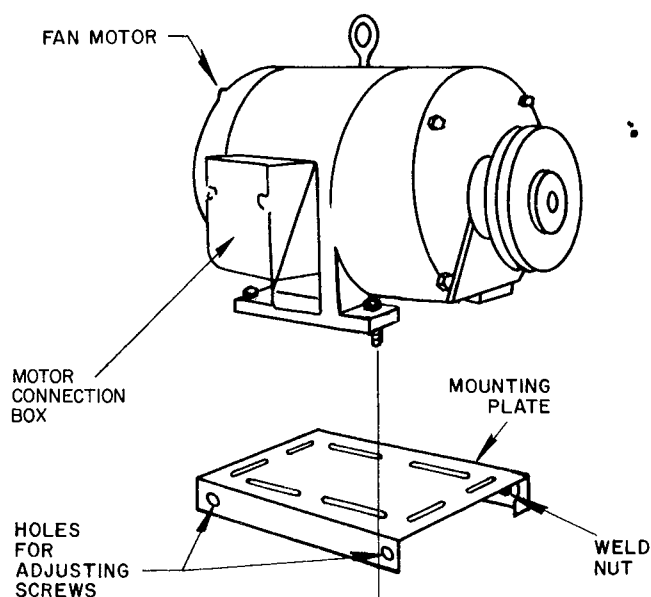
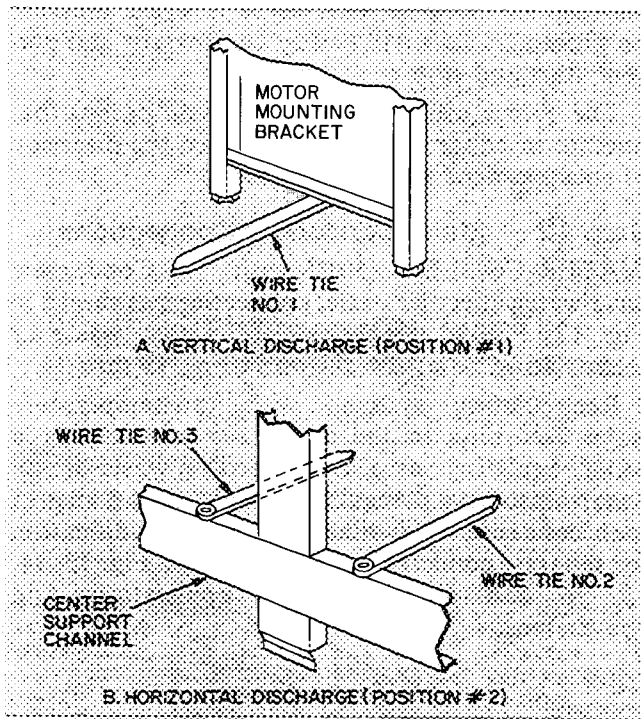

**Fig. 5 — 50BJ,BK028 and 034 Motor
Fig. 9 — Wire Tie Locations
2. Position motor on motor plate (Fig. 5) and fasten with fasteners provided.
VERTICAL DISCHARGE (Fig. 2. Position #1) — Run wiring thru wire tie #1 (Fig. 9) on motor mounting bracket to the fan motor and secure. Route wiring from wire tie around motor side of mounting bracket to fan motor connection box on top of motor (Fig. 5). Cut off and discard excess wire. Refer to base unit label diagram for wiring connection details.
HORIZONTAL DISCHARGE (Fig. 2, Position #2) — Run wiring thru wire ties #2 and 3 (Fig. 9) to the fan motor and secure. Run wiring to connection box at back of motor (Fig. 5). Cut off and discard excess wire. Refer to unit label diagram for wiring connection details.